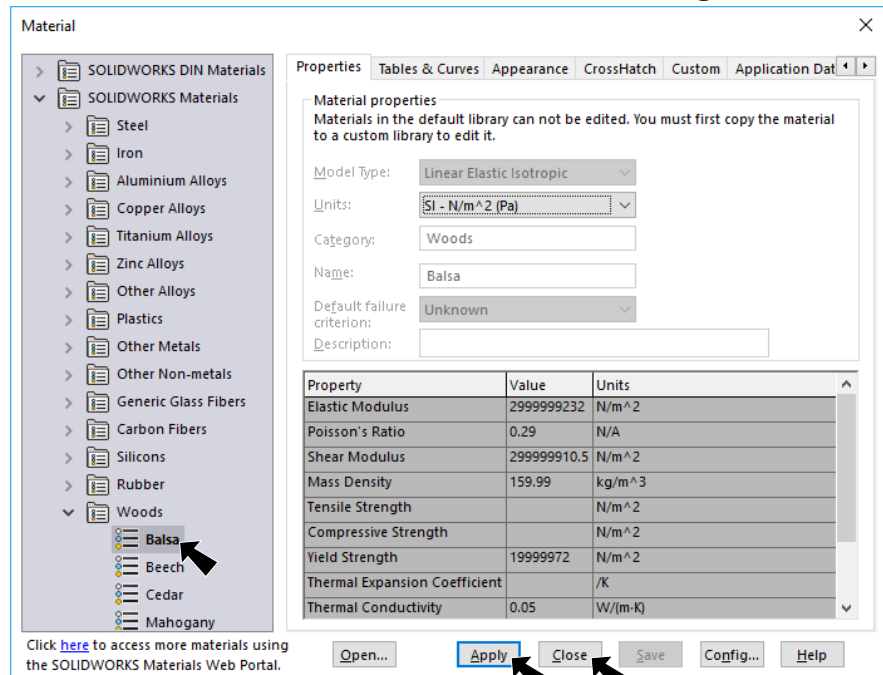

Fig. 28
Step 2. Expand **Woods** (click **▶**) in the material tree and select **Balsa**, Fig. 28. Click **Apply** and **Close**.